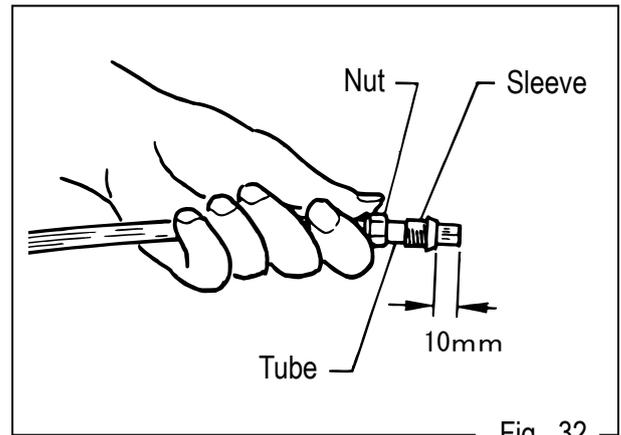

Fig. 32
- c) Installing the Nylon tube (Fig.32)